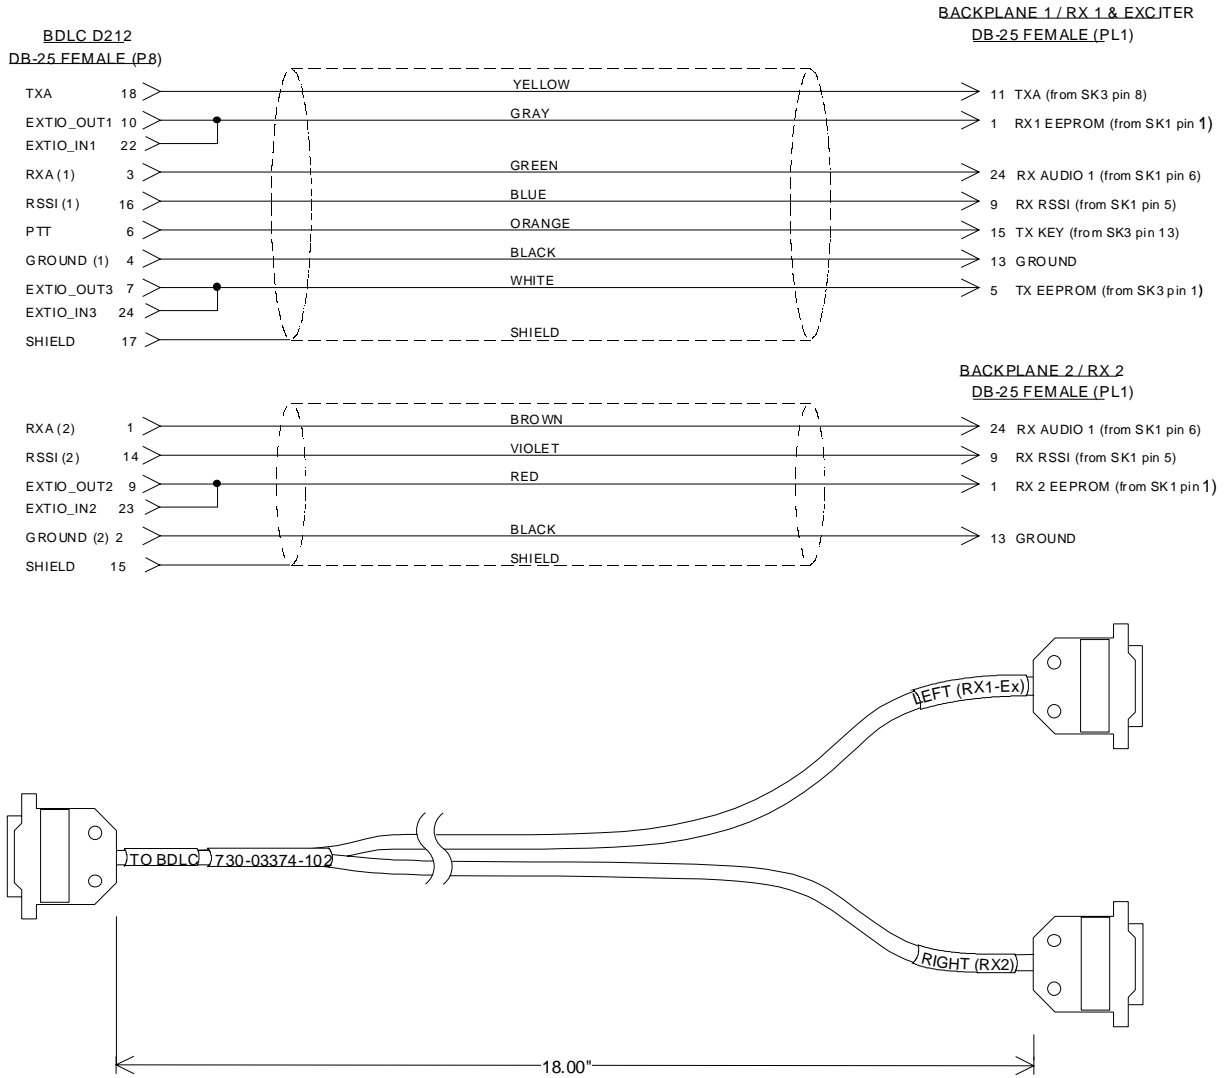

Figure 15 - BDLC^{PD} Y cable and pinout
- EXT RADIO/TEST - connects to the Radio assembly through the radio interface cable (see Figure 15)